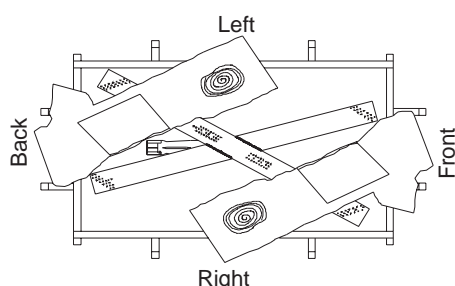

Figure 44 - Installing Logs "A" (Top View)
8. Place logs “A” as shown in Figure 44, page 19.